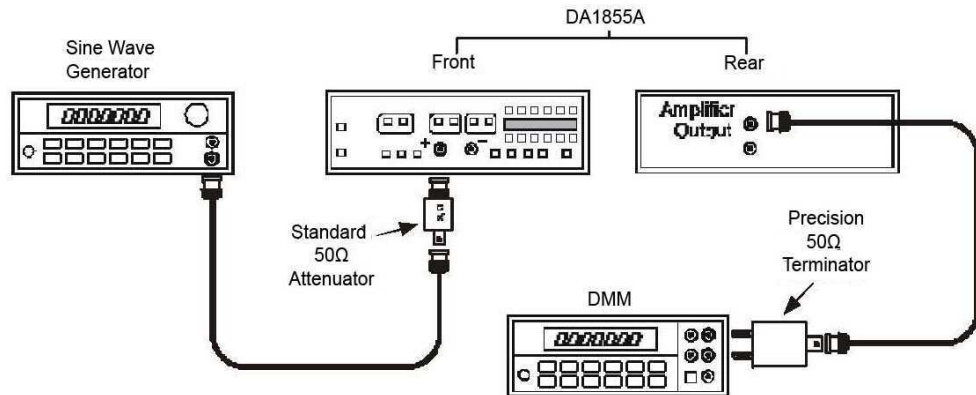

Figure 15, ÷10 Attenuator Accuracy Setup.
- Connect the DA1855A **AMPLIFIER OUTPUT** cable/precision termination to the DMM. Refer to Figure 15.